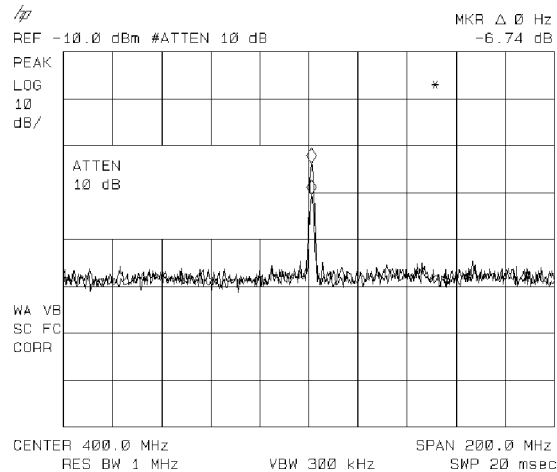
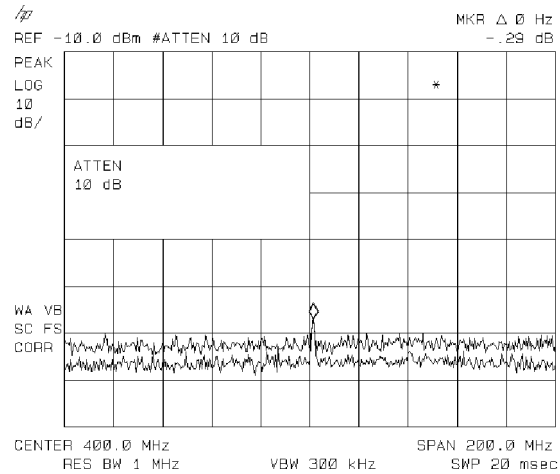

Figure 6-22. RF Attenuation of 10 dB
Figure 6-23. No Harmonic Distortion
5. Next, increase the RF attenuation by 10 dB: press **AMPLITUDE**, **ATTEN AUTO MAN**, and the step-up key (**↑**) once. (See Figure 6-22.)
If the responses in trace A and trace B differ, as in Figure 6-22, then attenuation is required. If there is no change in the signal level, the distortion is not caused internally. For example, the signal amplitude in Figure 6-23 is not high enough to cause internal distortion in the spectrum analyzer so any distortion that is displayed is present on the input signal.